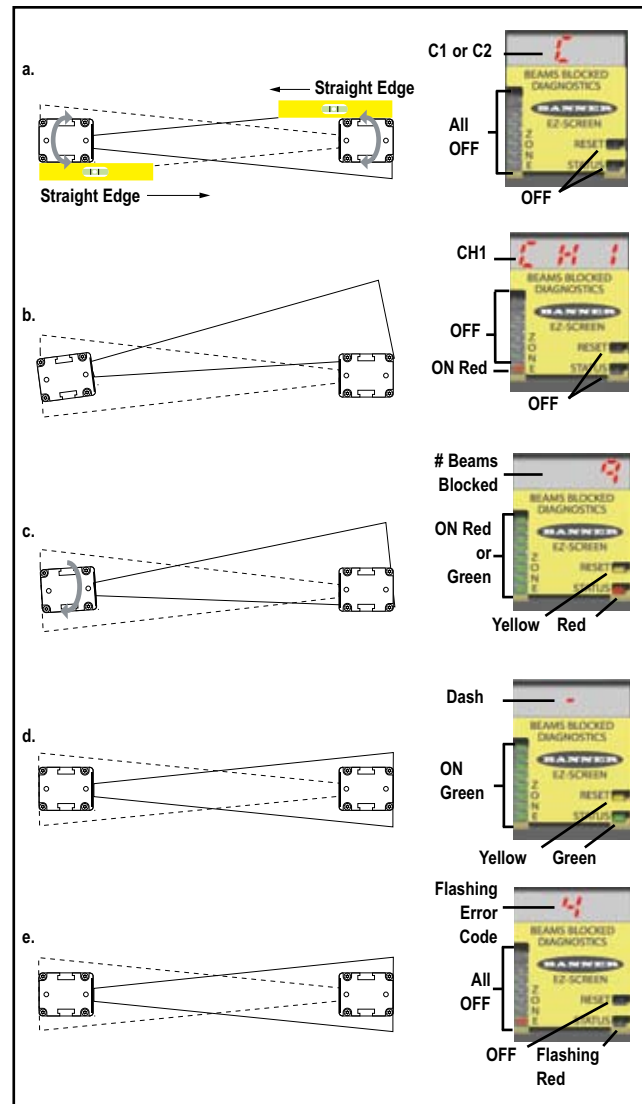

Figure 3-11. Optimum optical alignment
**To optimize alignment and maximize excess gain**, slightly loosen the sensor mounting screws (x4) and rotate one sensor left and right, noting the positions where the Status indicators turn Red (Blocked condition); repeat with the other sensor (see Figure 3-11). Center each sensor between those two positions and tighten the end cap mounting screws, making sure to maintain the positioning as the screws are tightened. The sensor lenses should directly face each other. Proceed to System Configuration (Section 3.4.2) once optimum optical alignment is verified.
- a. Ensure the emitter and receiver are pointed squarely at each other. A straight edge (e.g., a level) can determine the direction the sensor is facing (see Figure 3-11). The sensor face must be perpendicular to the optical axis.